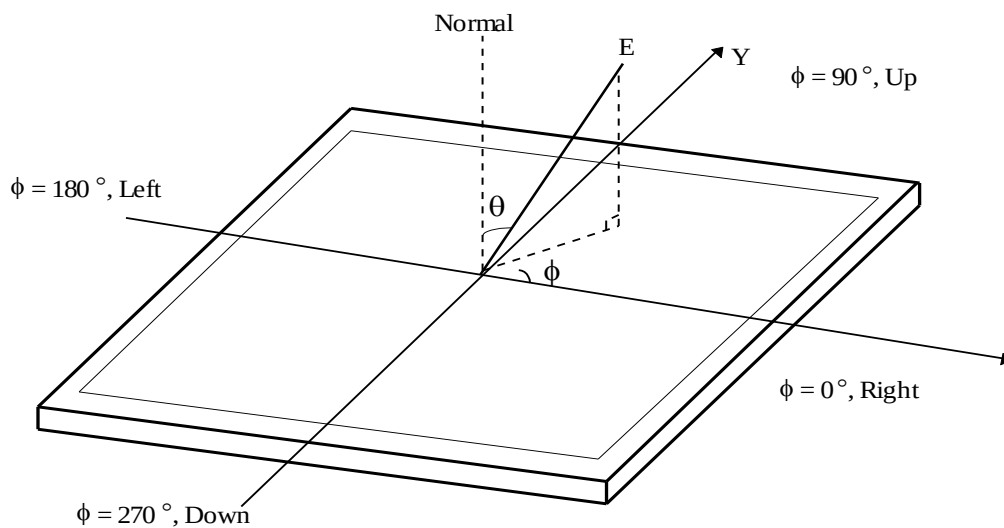

FIG. 5 Viewing Angle
6. Viewing Angle Color Shift (VACS) is defined as follows after measuring color coordinates at each angle.; $VACS = \sqrt{du^2 + dv^2}$ (@ CIE (u', v') color space) For more information, see the FIG. 5.